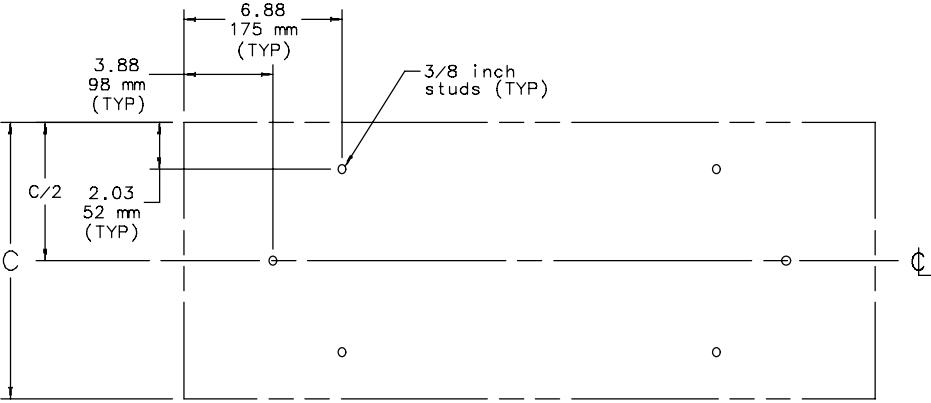

Figure 1 – Floor Stud Hole Pattern
2. Anchor six 3/8 inch diameter studs (not provided with kit) securely in the floor as shown in figure 1.